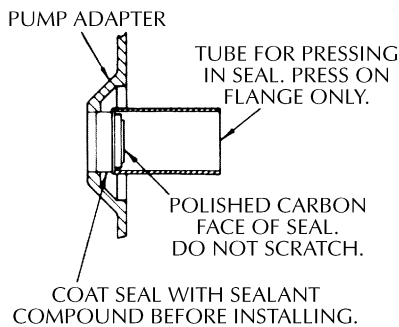

Figure 3
2. Clean the cavity in the adapter. Before installing, coat seal case with sealant compound. Press seal into adapter with a tube or pipe of the correct size to press on the seal rim only, as shown in Figure 3.